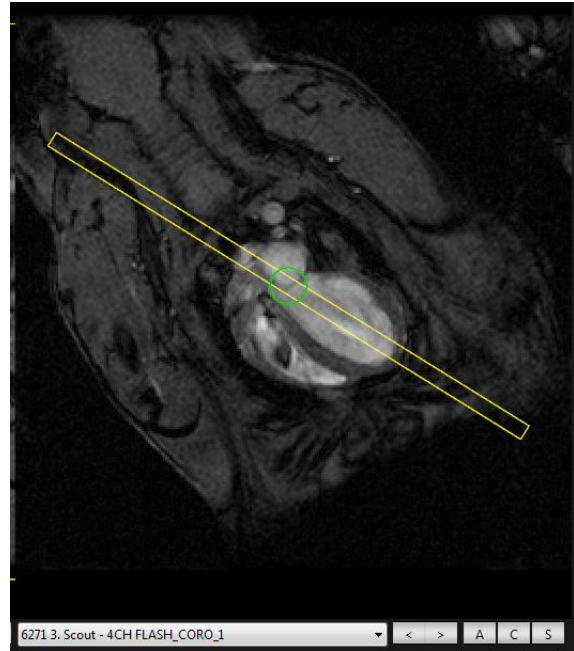

Figure 6: Planning of two-chamber long-axis measurement.
- Load “3. Scout_4CH”, and plan as shown in **Figure 6**.